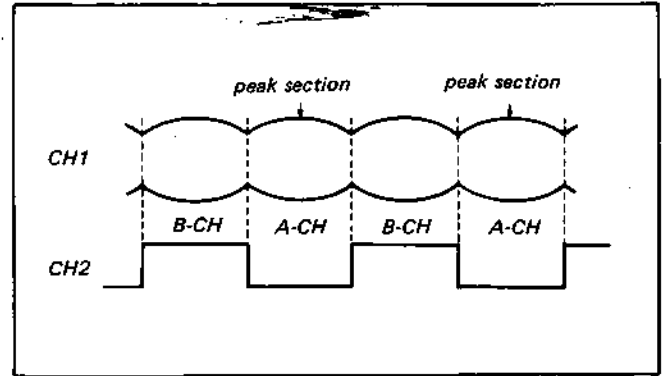

Fig. 5-24. Tracking center adjustment
- (1) Set the slow motion tracking knob at the center click position.
- (2) Adjust the waveform peak to be in center of A-CH with RV806. (See Fig. 5-24)